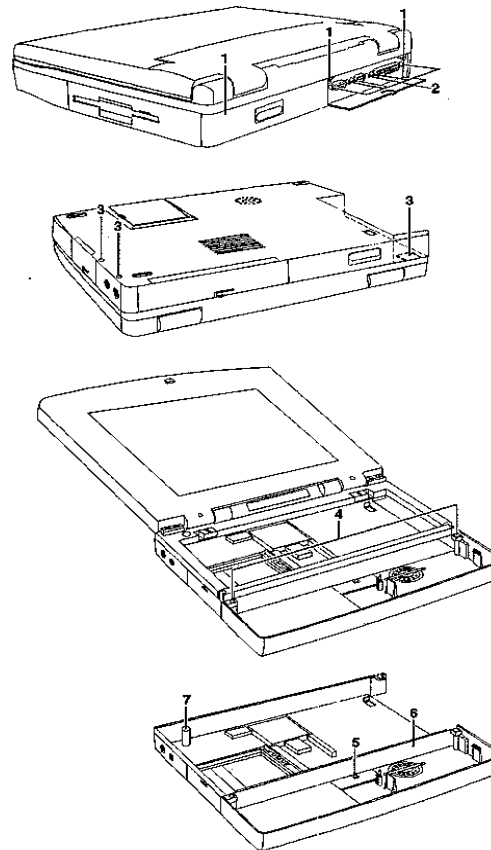

Figure 7-7-1. System Board Disassembly/Reassembly
8. Remove three screws(Figure 7-7-1 #1) and six hexnut screws(Figure 7-7-1 #2) from the rear panel.
9. Remove two screws(Figure 7-7-1 #3) from the bottom of the notebook.
10. Remove two screws(Figure 7-7-1 #4) securing the top cover to the chassis.
12. Remove the screw(Figure 7-7-1 #5) securing the system board to the chassis.
13. Remove the bracket(Figure 7-7-1 #6).
14. Remove the Power Button cap (Figure 7-7-1 #7).
2. Replace the Power Button cap (Figure 7-7-1 #7).
3. Replace the bracket(Figure 7-7-1 #6) and the screw (Figure 7-7-1 #5).
4. Align the top cover with the chassis and replace the two screws (Figure 7-7-1 #4).
5. Replace the three bottom screws(Figure 7-7-1 #3).
6. Replace the three rear panel screws(Figure 7-7-1 #2) and six hexnut screws (Figure 7-7-1 #1).